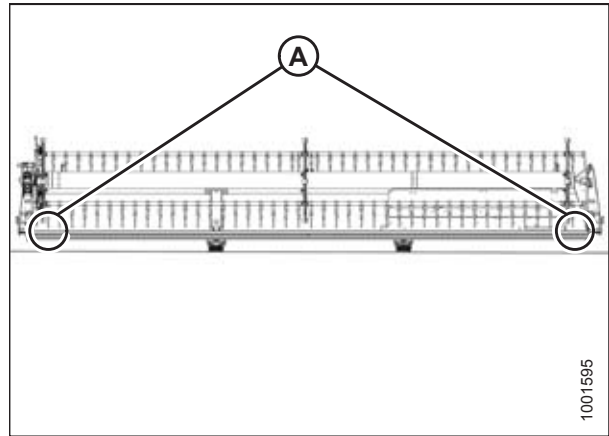

Figure 5.28: Single-Reel Measurement Locations
- Figure 5.28, page 68 – single reel